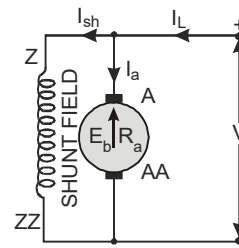

Fig. 4.57: Circuit of shunt motor
- (i) **Shunt motors** : Their conventional diagram is shown in fig 4.57.